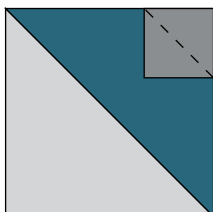
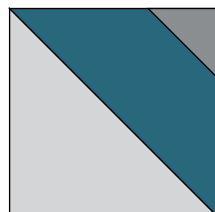

Fig. 15
Fig. 16
7. Place (1) 5 ½" Fabric C square on the top right corner of (1) Unit 3 square, right sides together (Fig. 15). Sew across the diagonal of the smaller square from the upper left corner to the lower right corner (Fig. 15). Flip open the triangle formed and press (Fig. 16). Trim away the excess fabric from behind the triangle ¼" away from the sewn seam.